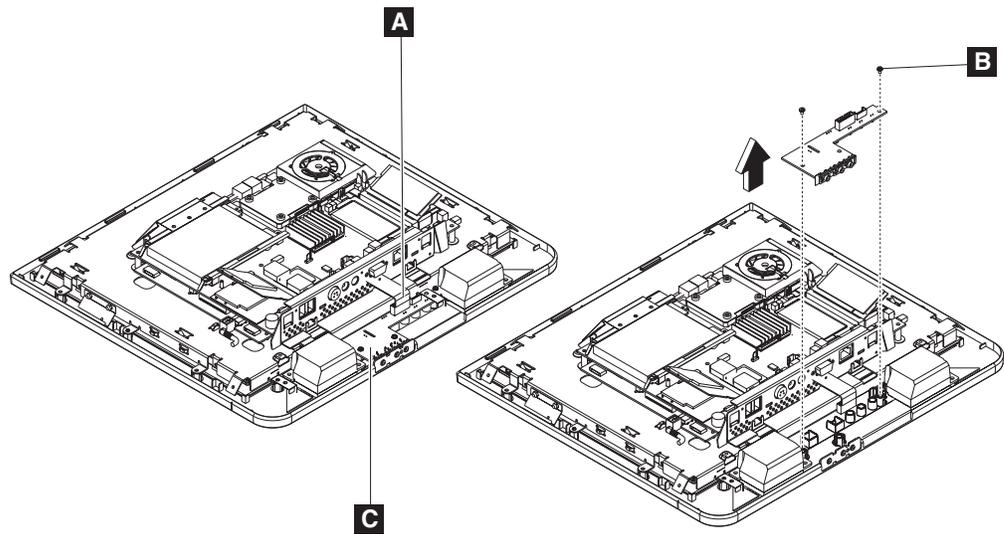

Figure 26. Removing the control card
2. See Figure 26. Disconnect the control panel cable (**A**).